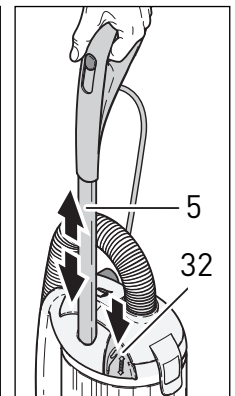

Figure 4
2. Adjust the telescopic handle tube (5) to the correct height by pulling out the release tab (32) and gently pulling the tube out to lengthen, or pushing it in to shorten. The tube will click into place when it reaches one of the three lengths available. Release the tab. If the tab does not fit snugly in place, the tube is set at an incorrect setting. Pull or push the tube until it locks into one of the three settings.- see figure 4.